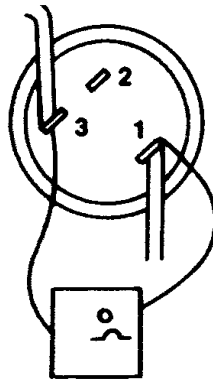

FIGURE 4. OUTPUT SHAFT
3. Problems in the gear motor electrical circuit. See Figure 4
3. Check terminals 1 and 3 on overload. No continuity replace overload. Use a volt-ohm meter. See Figures 4 and 5.
(See Figure 4)